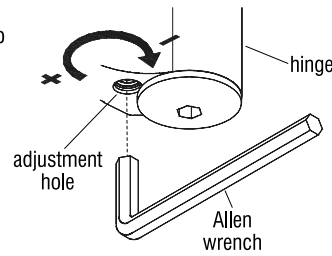

Figure 12
20. Closing speed of the door can be adjusted on the underside of the hinge using the adjustment hole and a proper size Allen wrench. Turning counter clockwise increases the speed while turning clockwise decreases the speed (Figure 12).